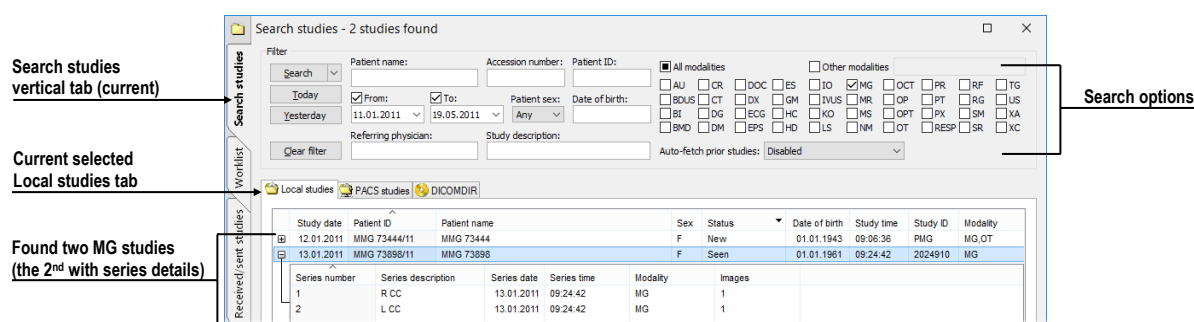

Figure 439 – Opened patient study from the Local studies
- Finding and opening a required study stored in the local studies (see Figure 439) by taking the following steps: